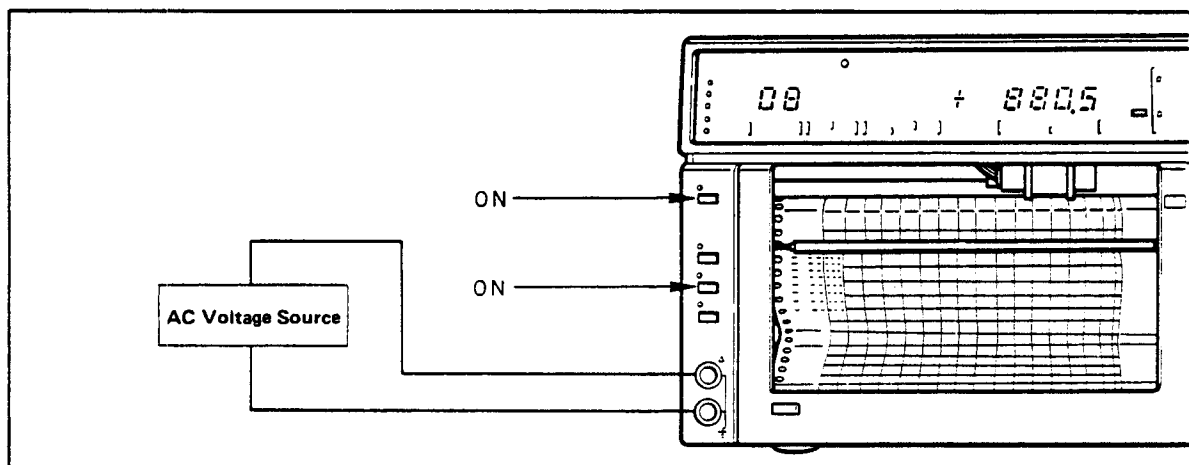

Figure 7-11. AC Voltage Measurement.
- (1) Turn ON the recorder POWER switch.
- (2) Press the DMM and AC keys.
- (3) Connect the measurement leads to terminals H and L and the other ends of the leads to the AC voltage source to be measured as shown in Figure 7-11. The terminal L should be connected to the low potential terminal.
- (4) The measured value is displayed together with an engineering unit.
- (5) The recorder displays calibration value of mean.
- (6) If the printout of the front panel input is required, carry out par. 7-7 RANGE Setting (TREND Mode).